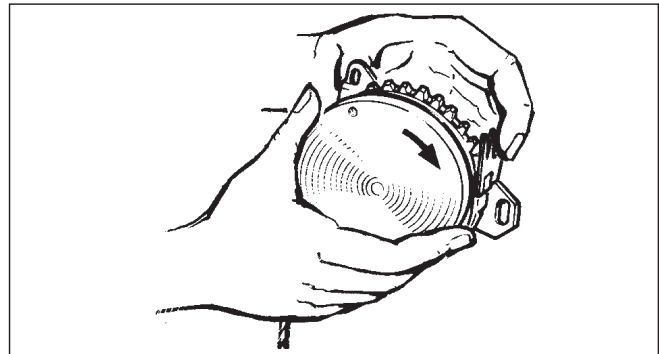

Fig. 16
- Pre-tension the spring by completely winding the rope onto the pulley in the direction of the arrow. (Fig 16).